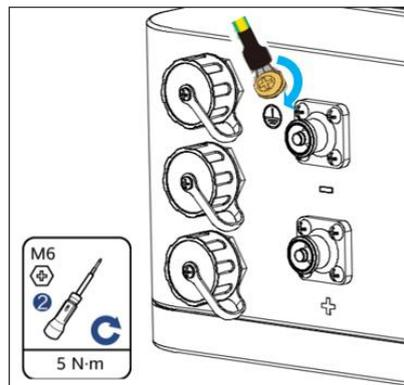

Fig. 4.3.3 Ground cable connection
Ground cable connection: use a screwdriver to fix the ⑧ ground wire terminal to the battery ground point refer to Fig. 4.3.3.